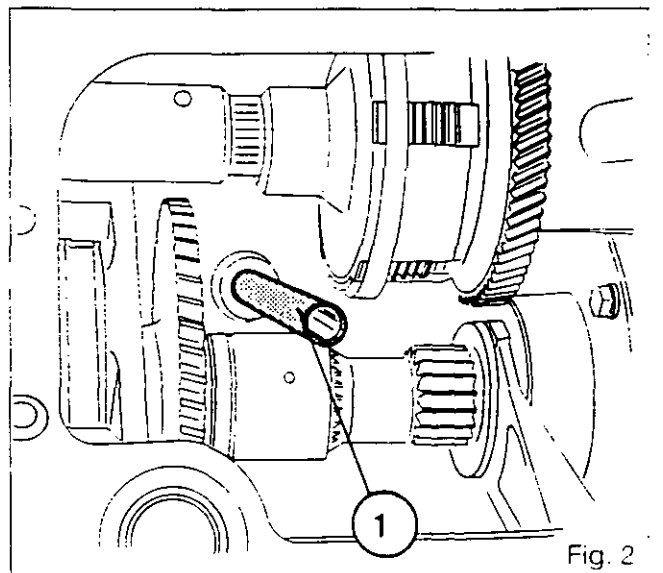

Fig. 2
- the supply pipe (17) of the Orbitrol steering valve
- the pipe (15) coming from the distribution valve.
7. Disconnect the harness (9) of the engine speed sensor.
8. Disconnect the harness (13) of the low-pressure switch and the wire (4) of the filter vacuum switch.
9. Remove the cover plate (14).
12. Remove the screws (2).
14. Remove the transfer pipe (1) (Fig. 2)